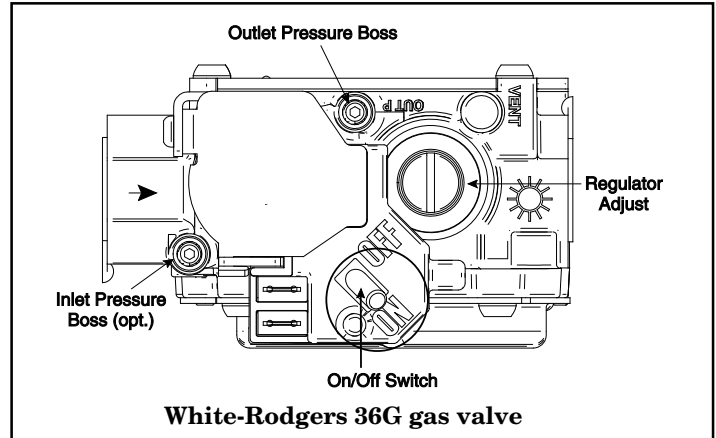
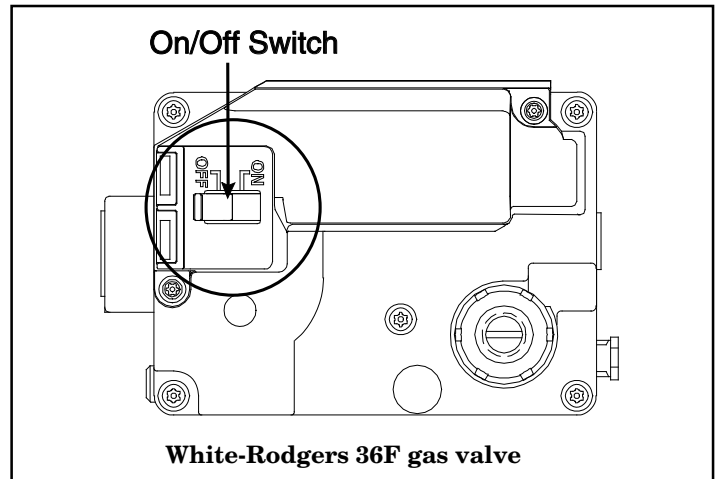

FIGURE 17
FIGURE 18
- b. Attach a manifold pressure gauge to the outlet pressure tap marked "OUT PRESS TAP" on White-Rodgers gas valve model 36F or boss marked "OUT P" on White-Rodgers gas valve model 36G. (See Figure 18 for White-Rodgers gas valve model 36F and Figure 17 for White-Rodgers gas valve model 36G.) For the gas valve model 36F, measurement requires removal of the plug and installation of a barbed fitting. Attach flexible tubing and a manometer to the barbed fitting.
For complete shutdown: Move the control switch on the main gas valve to the "OFF" position (See Figure 17 & 18). Disconnect the electrical supply to the unit.